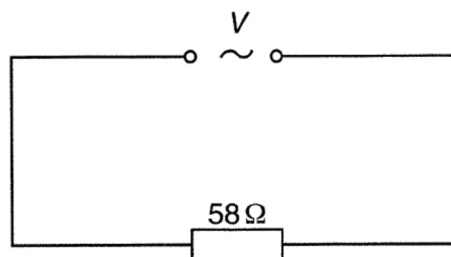

Fig. 9.1
- (b) An alternating power supply is connected to a resistor of resistance 58 Ω, as shown in Fig. 9.1.